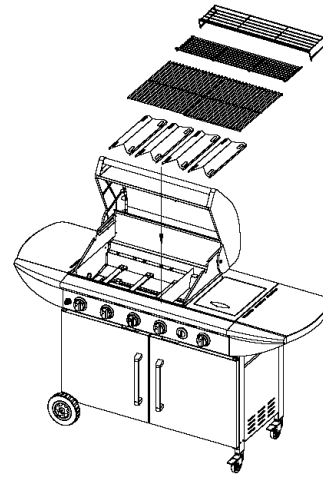

Figure 20
1. Evenly space cooking grids on the ledge above heat diffuser. (Fig.20)
2. Slide the 1st(bottom) warming rack into the brackets in the grill bowl side panels, and insert the legs of the 2nd(top) warming rack into the holes in the tops of the grill bowl side panels. (Fig.20)